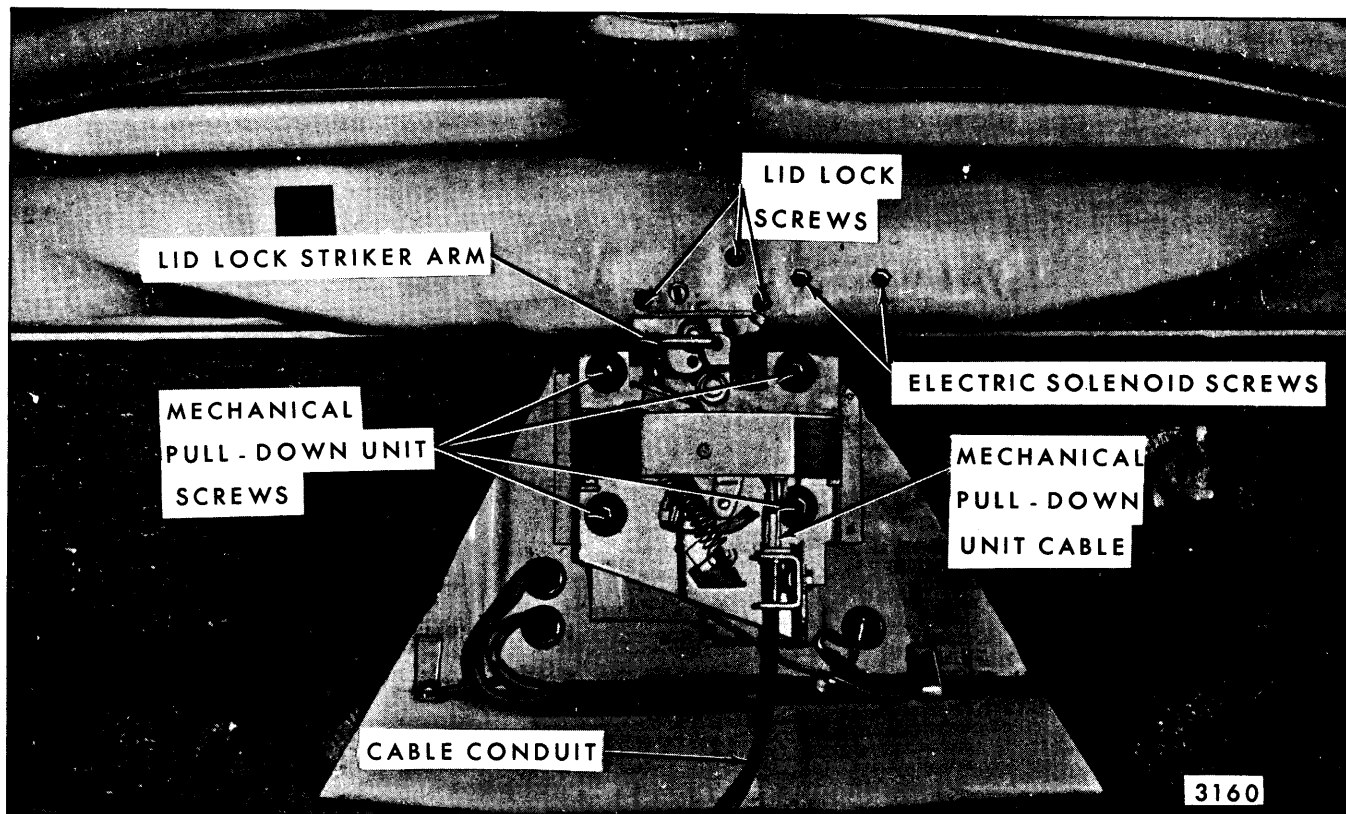

Fig. 8-24—Rear Compartment Lid Mechanical Pull-Down Unit
3. Scribe (mark) position of pull-down unit on rear end panel and supports to facilitate reinstalling units in same position. Remove pull-down unit attaching bolts and remove unit from body (Fig. 8-24).